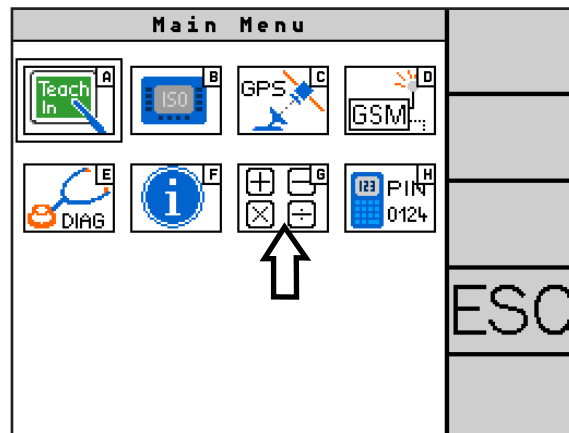
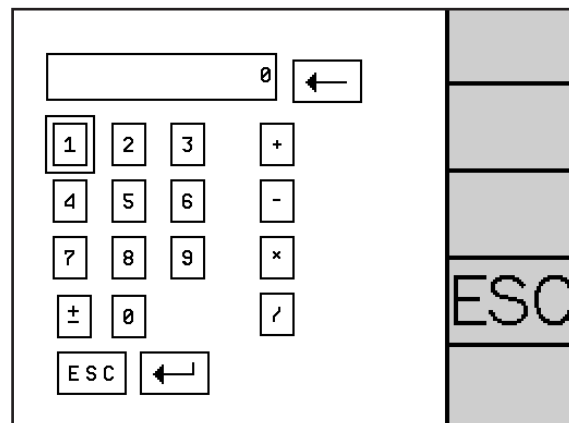

Fig. 126: Call up calculator
Fig. 127: Calculator
Select in the main menu the calculator symbol (G) (see Fig. 126) to call up the calculator (see Fig. 127).